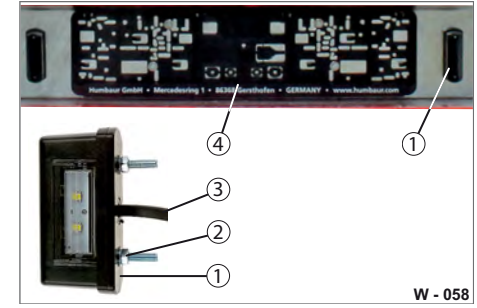

Fig. 60 Licence plate light
- ▶ Loosen the bolted connections (Fig. 60/2).
- ▶ Loosen the connection cable with connector (Fig. 60/3).
- ▶ Replace the complete LED lamp (Fig. 60/1).